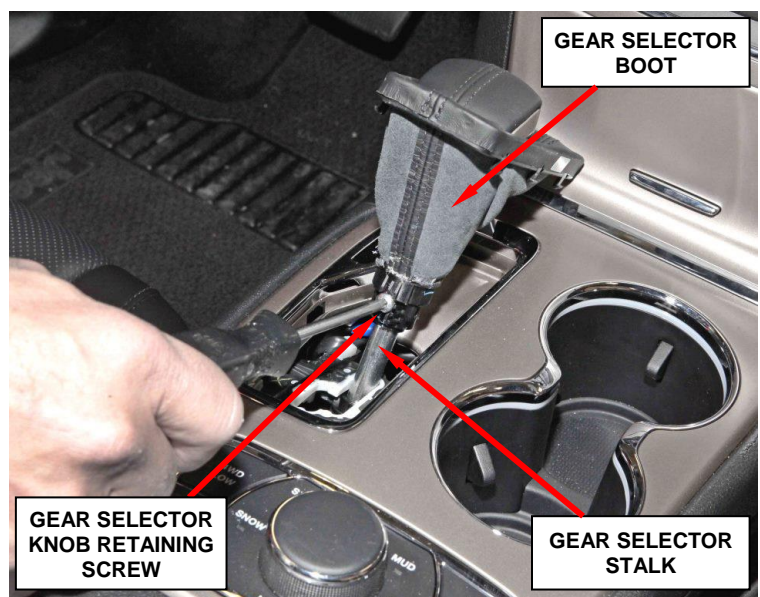

Figure 2 – Gear Selector Knob
3. Remove and save the gear selector knob retaining screw (Figure 2).
4. Remove and save the gear selector knob and boot from the gear selector stalk (Figure 2).
16. Install the gear selector knob and boot to the gear shift stalk as an assembly (Figure 2).
17. Install the gear selector knob retaining screw (Figure 2). Tighten the screw to 18 in. lbs. (2 N·m).